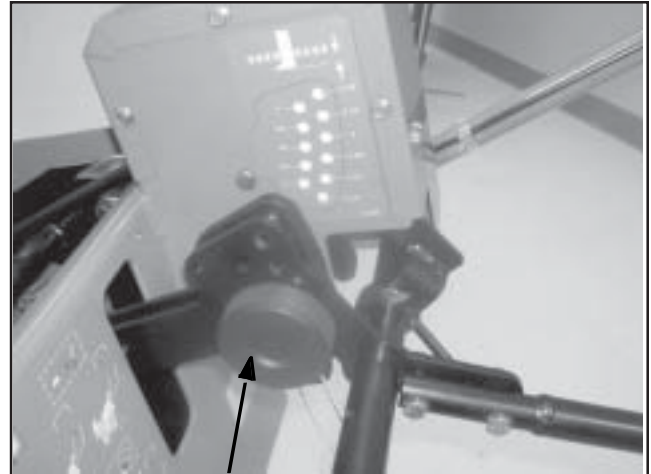

FIGURE 5
- Place knob into selected depth of cut hole and secure tightly. See Figure 5.